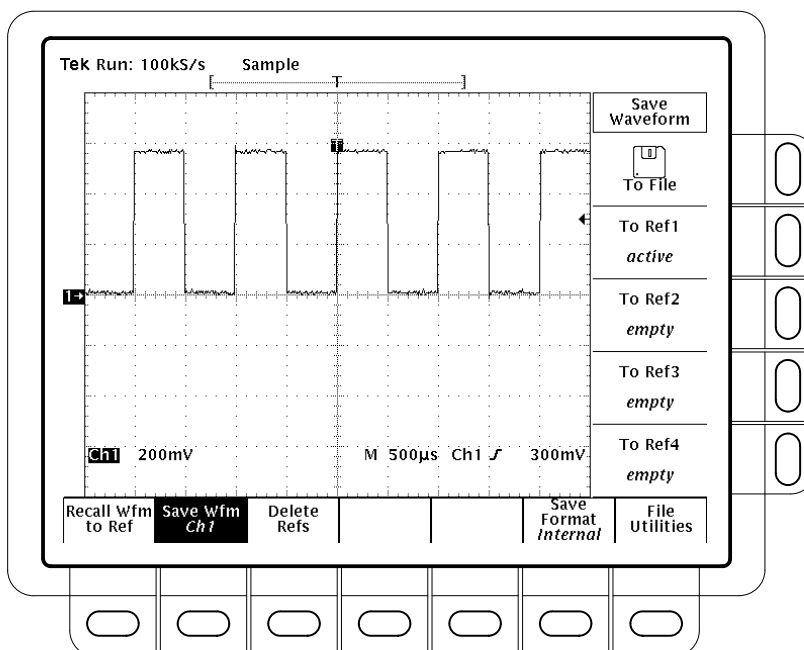

Figure 3-47: Save Waveform Menu
**NOTE.** *Before doing step 2 that follows, note that if you use a reference memory location labeled active (see Figure 3-47), you overwrite the waveform that was previously stored there. You can store waveforms in reference locations labeled empty without disturbing previously stored waveforms.*